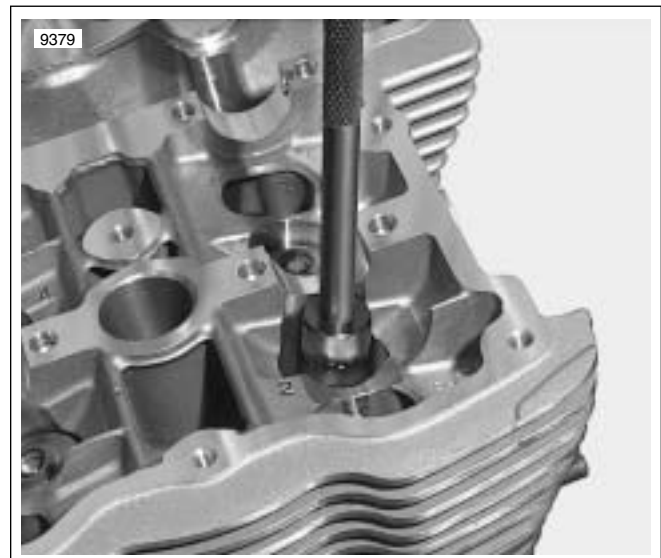

**Figure 3-46. Valve Guide Removal (typical)**
13. See Figure 3-46. Remove and replace the valve guides that do not meet specifications. Position head for removal of valve guide. Use CYLINDER HEAD SUPPORT STAND (HD-39782) with CYLINDER SUPPORT ADAPTER (HD-39782-13) for intake valves and CYLINDER SUPPORT ADAPTER (HD-39782-14) for exhaust valves.